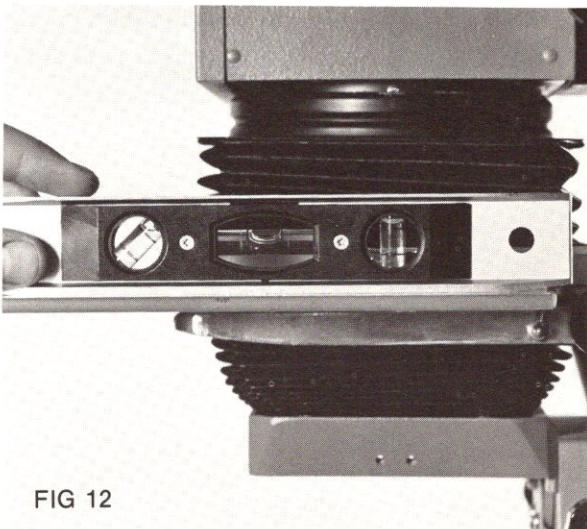

FIG 12
**Technique #2** - Place a bubble level on the baseboard. Next, place the level on either side of the top surface of the glass (see fig. 12).